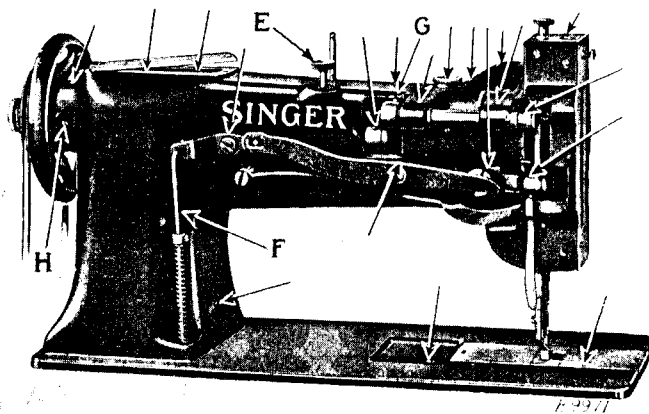
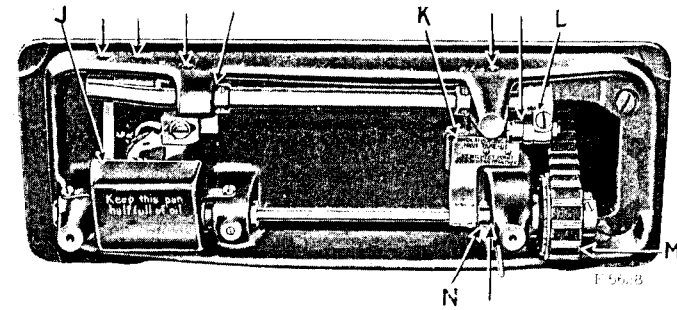

Fig. 14. Rear View of Machine Showing
Fig. 15. Base of Machine, Showing Oiling Points
To increase the pressure, turn the thumb screw (E, Fig. 14) at the back of the machine, downwardly. To decrease the pressure, turn this thumb screw upwardly.
Turn the machine back on its hinges and apply oil at the places designated by arrows as shown in Fig. 15, and all other
When the machine is received from the factory, half fill the oil pan (J, Fig. 15) with Singer Manufacturing Sewing Machine Oil. This oil should be changed at least once each week to ensure proper lubrication. Oil should also be applied at the top of the hook saddle from whence it will drop into the oil pan to lubricate the gears and shaft.
If the distance between the vibrating presser bar and the lifting presser bar is more or less, insert a screwdriver in the hole (F, Fig. 14) at the rear of the machine and loosen the screw therein. While this screw is loose, the needle bar frame can be moved forward or backward to the required distance. A piece of metal of the correct width may be used to determine the correct distance. When making this adjustment be sure to see that the feed regulating spindle head is set so that there is no feeding movement of the needle bar. When the adjustment has been made, securely tighten the screw at F.
The amount of lift of the vibrating and lifting presser feet should be regulated according to the thickness of the material being sewn. The feet should lift just high enough to clear the material. As a rule, the vibrating and lifting pressers should lift an equal height, but some grades of work may require that they lift an unequal height. To change the relative lift of the presser feet, loosen the screw (G, Fig. 14) at the back of the machine and move the presser bar upwardly or downwardly as required, then securely tighten the screw (G).
The feed dog should be set so that when the needle is down it should be slightly in front of the centre (toward the operator) of the needle hole. In case the needle does not enter the hole in the feed dog correctly, loosen the pinch screw (L, Fig. 15) and adjust the feed dog as required, then securely tighten the pinch screw (L).
Remove the face plate and needle bar rock frame, then loosen the clamp screw at (F, Fig. 14) and draw out the rock shaft.
Slide the connection belt off lower pulley (M, Fig. 15); remove the feed regulating spindle head and balance wheel; loosen the arm shaft bushing screw (H, Fig. 14) at the back of the arm and remove the bushing; lift the belt up through the arm cap hole as far as possible and draw it out through the space normally occupied by the bushing.
Owing to the fact that the sewing hook makes two revolutions to one revolution of the arm shaft, and that the feed lifting eccentric is on the hook shaft, it is possible to have the sewing hook correctly timed without having the feed correctly timed. To overcome this, the plate (K, Fig. 15) is attached to the underside of the bed of the machine. This plate is marked with an arrow at its lower end and directly alongside of the plate is the collar (N, Fig. 15) mounted on the hook shaft, which is also marked with an arrow. When replacing the belt, replace the arm shaft bushing and securely fasten it in position by the screw (H, Fig. 14) at the back of the machine; replace the feed regulating spindle head and the balance wheel, and place the belt on the upper pulley, and then turn the balance wheel over toward you until the thread take-up lever is at its highest point. Then turn the hook shaft with the fingers until the two arrows, one on plate "K" and the other on collar "N", are directly in line. Now, without disturbing either the arm shaft or the hook shaft, slip the belt over the lower pulley (M, Fig. 15). The feed will then be correctly timed with the needle bar.